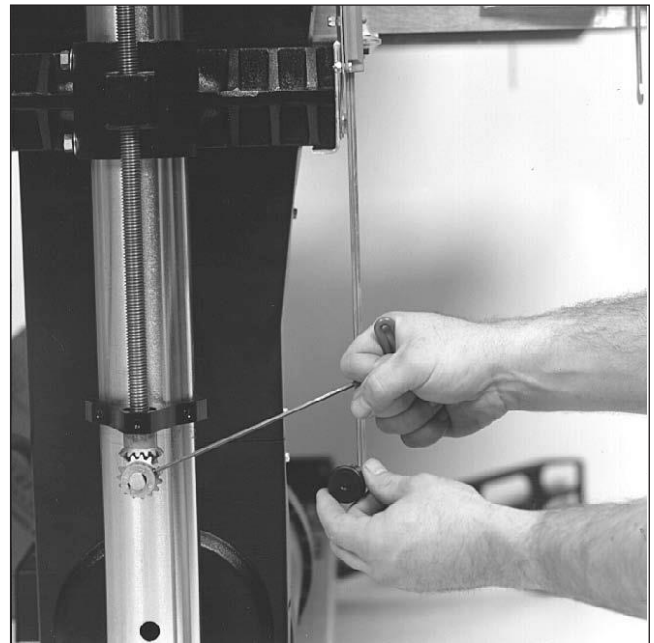
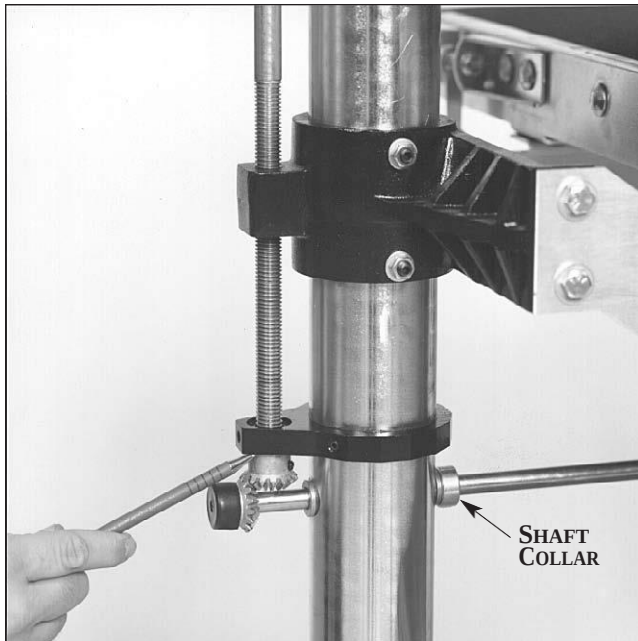

Fig.18. Adjusting miter gears for proper mesh.
Fig. 19. Miter gear below adjusting screw support.
2. Lubricate thoroughly by applying penetrating lubricant to the table support castings where they contact the column tubes, and to all contact points of adjusting screws and cross bar (Fig. 18). Also apply oil or grease to the miter gears.
5. If the height adjustment mechanism feels rough, check the miter gear (Fig. 18) alignment. The miter gears can be adjusted on their shafts by loosening the set screws on the gears. Check and adjust so that the gear mesh is not too tight or too loose, and that the gear teeth align with the opposing gear. Note that the shaft collars located on the cross bar (Fig. 19) should be adjusted to control the lateral movement of the cross bar to maintain accurate miter gear alignment and mesh.
The mesh of the miter gears should be smooth and even. If not, adjust the gears for good mesh (Fig. 18). Measure the space between the miter gear and the adjusting screw support that holds the height adjusting screw in place (Fig. 19). The